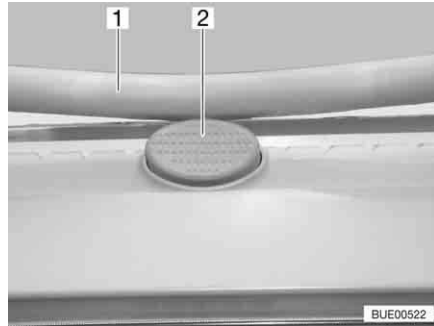

Fig. 17 Safety knob on the hinged skylight
- Press the safety knob (Fig. 17,2) and pull the bar (Fig. 17,1) down with both hands.
- Push the bar upwards with both hands until it is above the safety knob (Fig. 17,2).